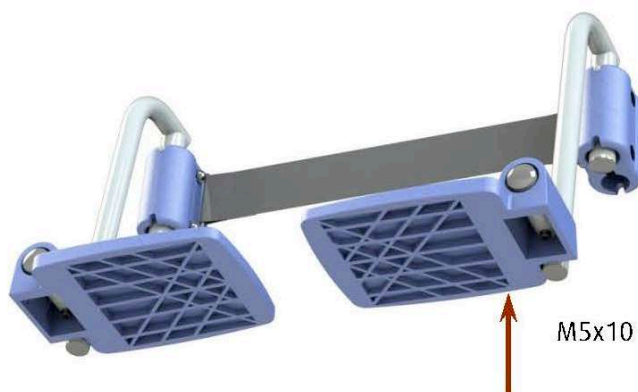

Figure 15 Foot rest
- Allan key 4mm
- Check M5x10 (bottom of plate), and replace stainless -steel bolts with ELVZ 8.8 bolts. (See figure 15 ) \_\_\_\_\_